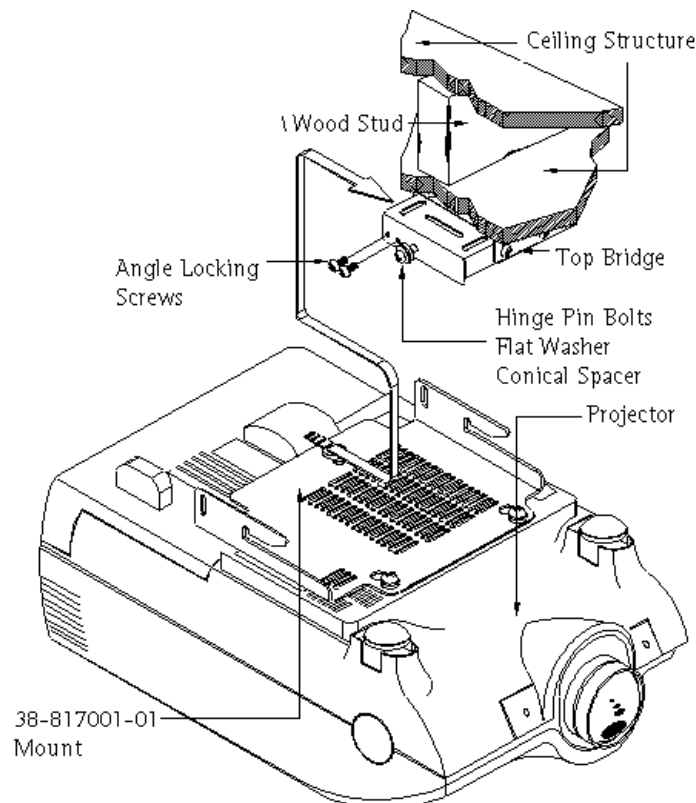

Figure 2. Projector Mount
8. Raise the rear of the projector and install the four (4) M6 x 12 mm angle locking screws to the rear of the base box. Adjust the angle and lock it.
9. Tighten the two (2) M6 x 12 mm hinge pin screws (Figure 2).